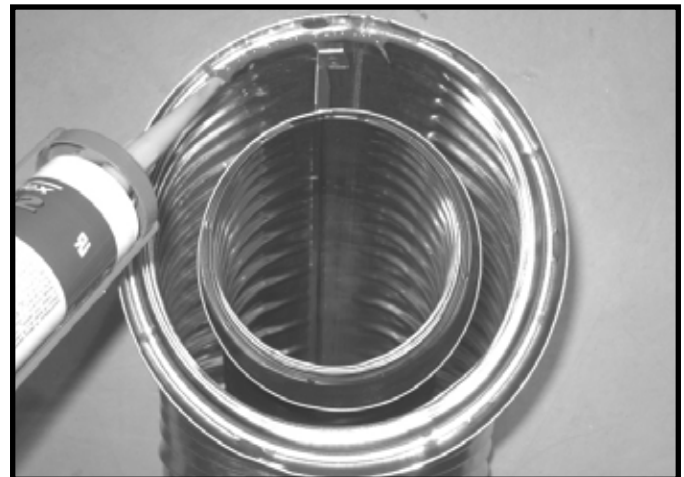

Figure 7.1 High Temperature Silicone Sealant
- Apply a bead of silicone sealant (300 °F minimum continuous exposure rating) inside the female outer pipe joint prior to joining sections. See Figure 7.1.